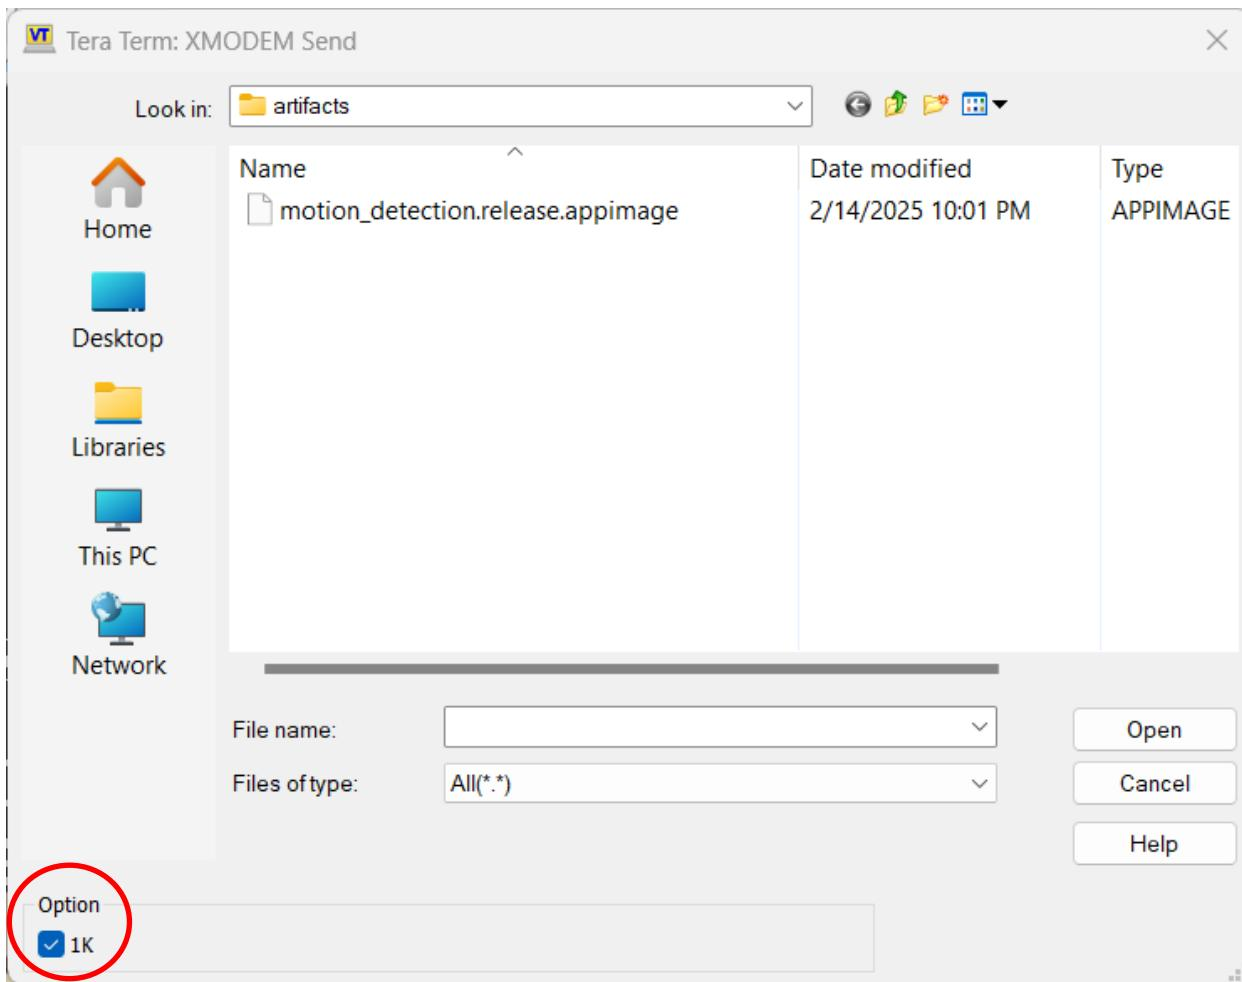

Figure 4. XModem File Transfer Selection Dialog
4. Ensure that you select the "1K" option checkbox as shown in Figure 4.